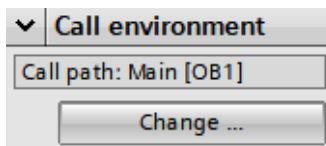

Figure 1.29 – Call environment panel
*Figure 1.29* demonstrates a call path to a program block. When the **Change ...** button is pressed, a list of available call paths is displayed. A call path can be selected, and TIA Portal will then monitor the selected call path.